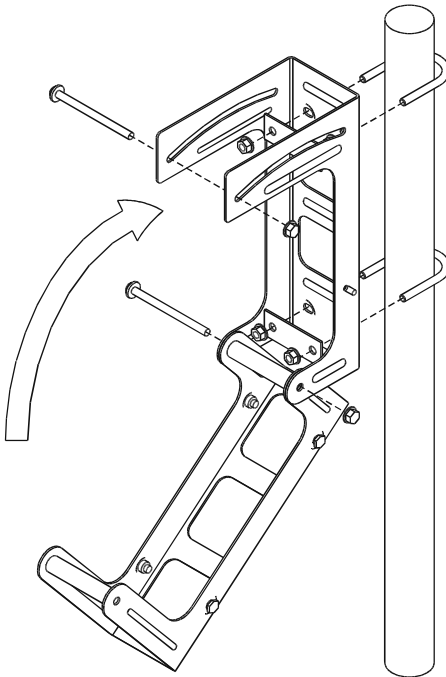

Figure 3-1 CU232 Mounting Bracket Fastened to Pole
1. Fasten the **CU232** mounting bracket to the pole with the two straps. You can improve the access to the fastening hardware by opening the **CU232** mounting to the "unfolded" configuration, as shown in Figure 3-1. The mounting bracket should face in the general direction of the remote unit.